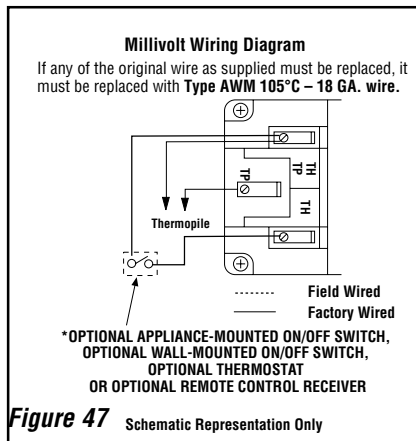

Figure 47 Schematic Representation Only
Step 4. MILLIVOLT CIRCUIT WIRING (Figure 47)
4. Alternatively, the appliance may be operated without the use of the controls indicated in step 1, solely by manipulating the gas valve control knob. In order to use this method, twist the free ends of the two conductor wire (located on top of the unit) together as shown in *Figure 47*.